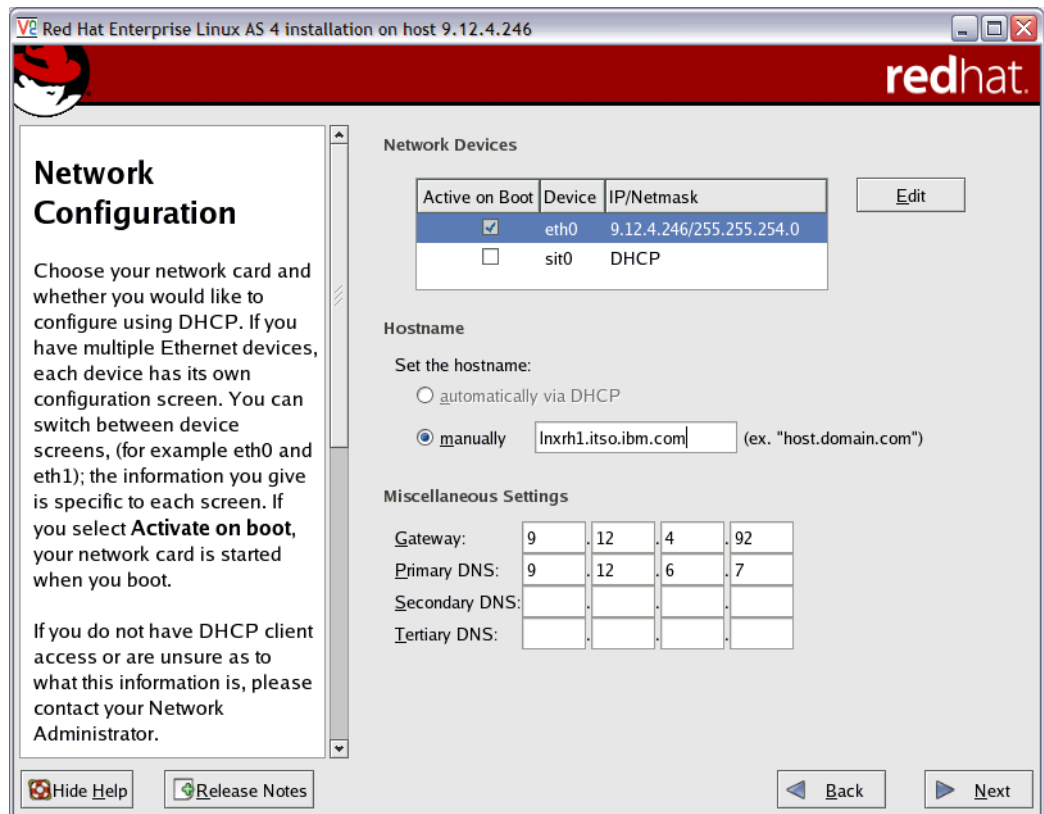

Figure E-8 Network configuration options
- Next, we updated the network configuration options as shown in Figure E-8 on page 301. Note that all the parameters we previously entered were kept except the hostname, which we had to update again manually.